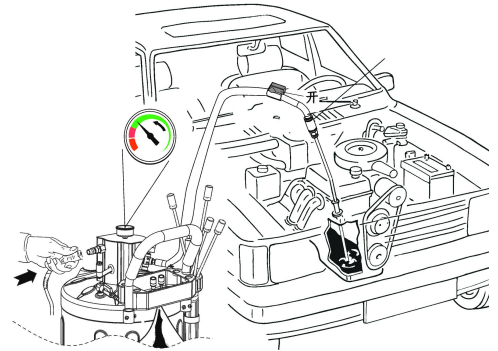

Fig. 4
4. FIG.4 Turn on the ball valve for oil extraction.